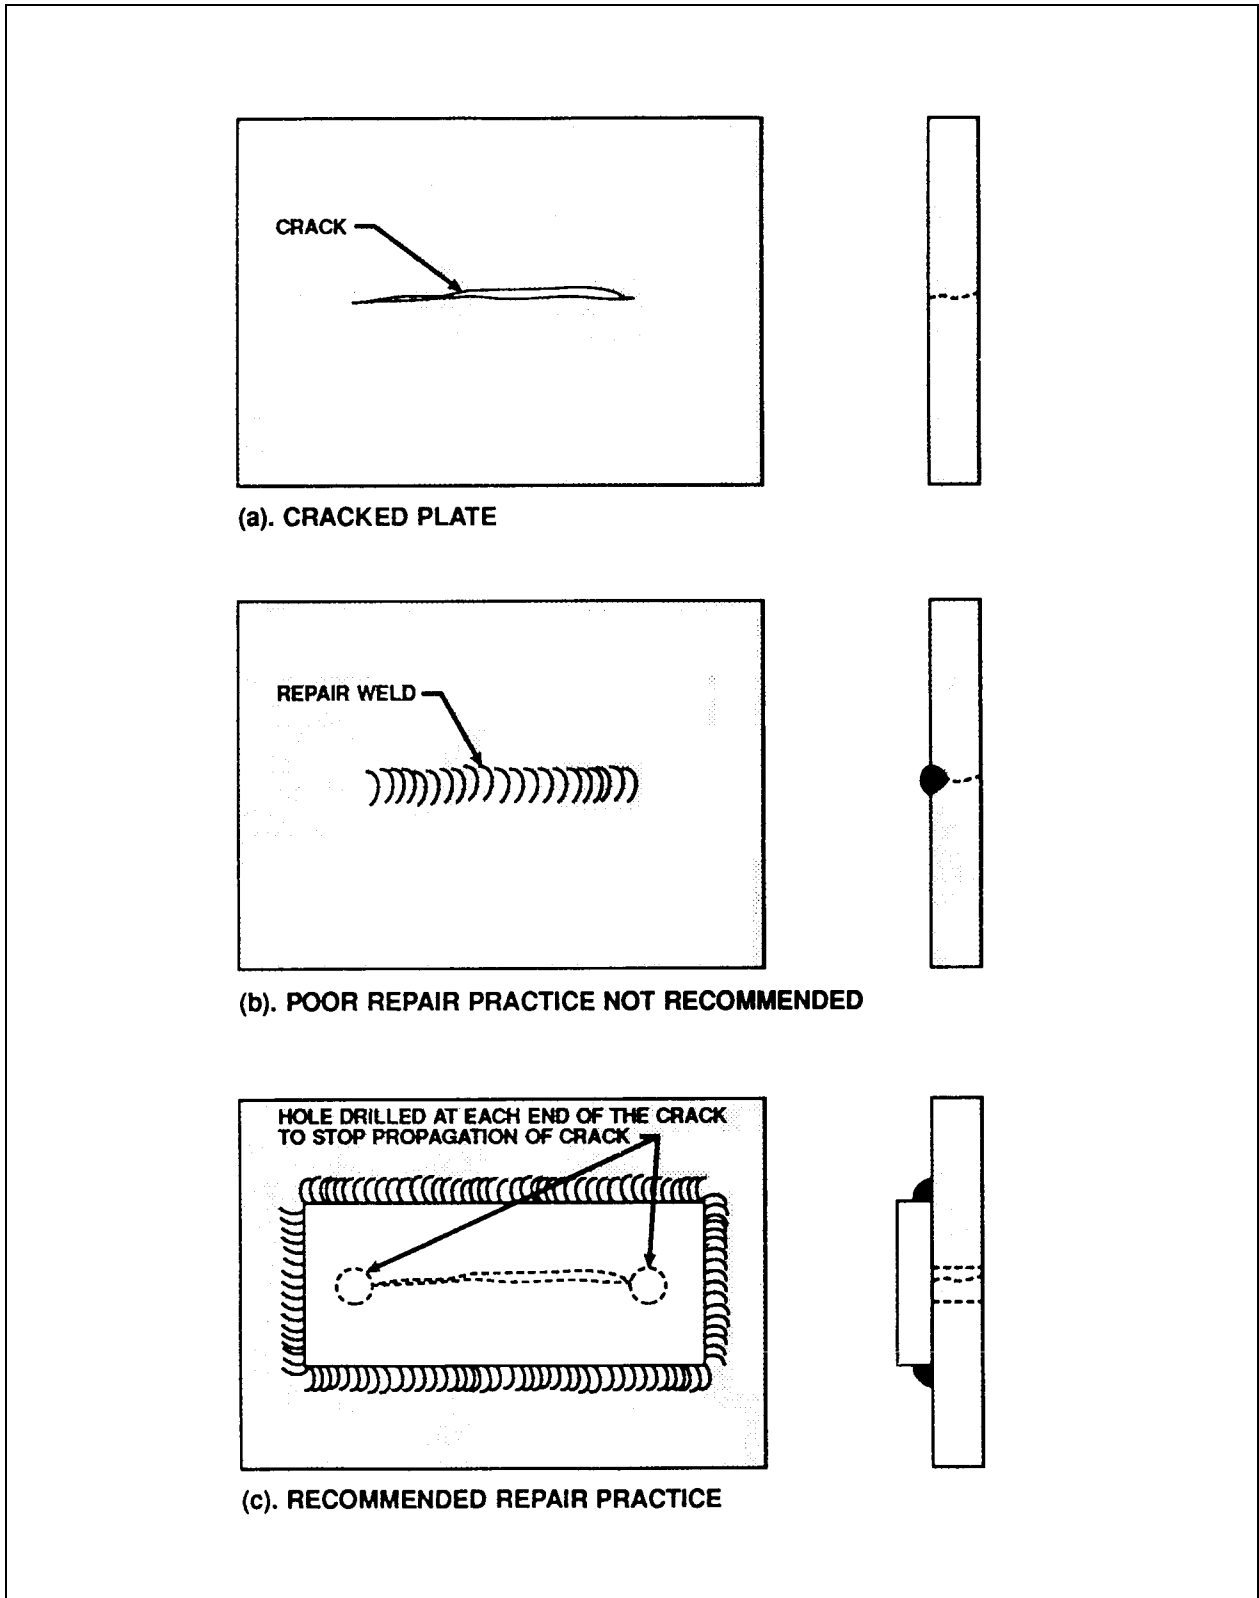

Figure 3-8. Repair Method for Cracks in Underwater Structures Using a Rectangular Patch.
- a. Locate the ends of the crack by appropriate non-destructive testing techniques; Ultrasonic Testing (UT) or Magnetic Particle (MT).
**3-13.1 Using a Rectangular Patch.** The following procedure is recommended for repairing cracks in underwater structures using a rectangular patch. Figure 3-8 illustrates this procedure.